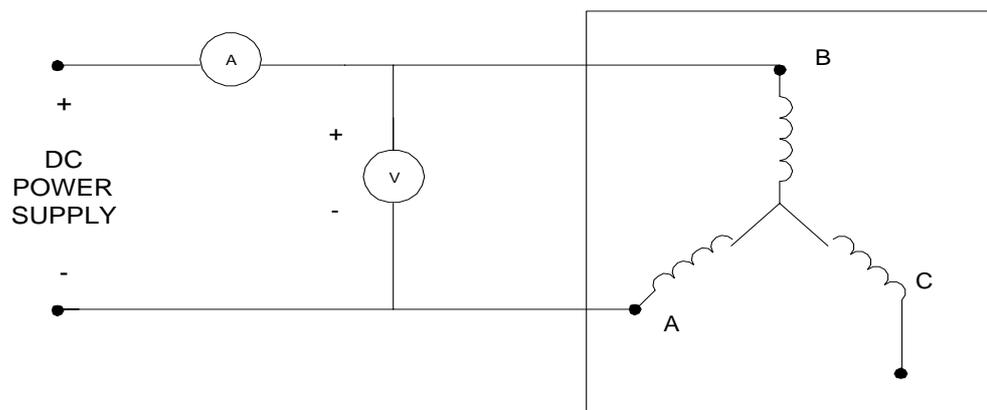

Fig.3: DC Resistance measurement Of The Alternator
9. Switch the alternator exciter off. Stop the motor and make connection as given in fig.3 for measurement of DC resistance of the armature.